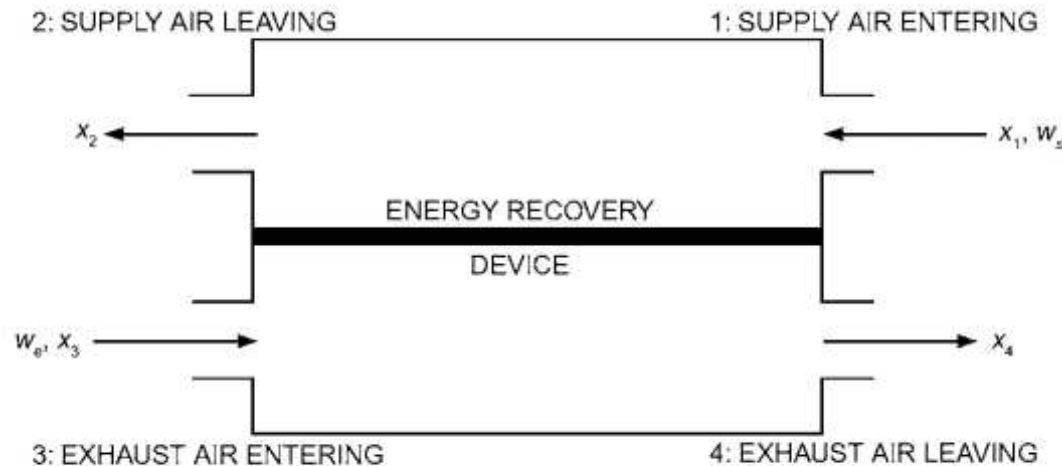

Fig. 1 Airstream Numbering Convention
From Figure 1, the sensible effectiveness ϵ_s of a heat recovery ventilator is given as
- t_1 = dry-bulb temperature at location 1 in Figure 1, °C